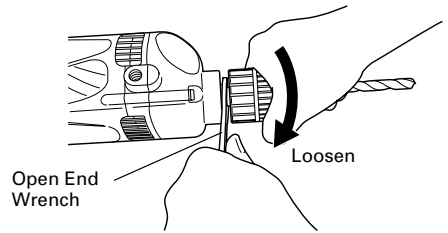

Fig. 3
- (4) If it is hard to loosen the sleeve, fix the spindle using the open-end wrench, hold the sleeve firmly, and turn it in the loosening direction (counterclockwise when viewed from the front). (Fig. 3)